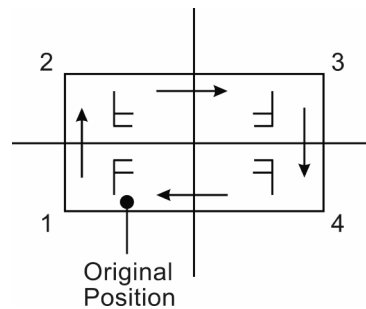

Fig. 9
- (1) To turn the tool on, hold the handheld display unit with LCD screen facing you.
- (2) Press **Power** button to turn on the screen. The power indicator light will illuminate green. The real-time image will appear on the LCD screen.
- (3) Press **LED Lighting Adjusting** buttons to adjust LED light intensity as needed. Press **DOWN** arrow button to adjust dim LED lighting while press **UP** arrow button to adjust bright LED lighting.
- (4) Press **Reverse** button to control the direction of the real-time image. The real-time image will do a horizontal reverse or vertical reverse. (See Fig. 9)